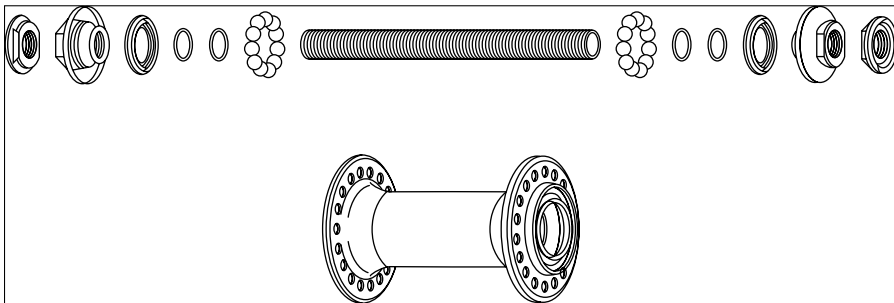

Figure 7-4:
- ✔ **Cup-and-cone (see Figure 7-4):** In the cup-and-cone style, loose ball bearings sit in smooth cup and are held in place by a cone. The cone and cup together create a *race*, in which the bearings can move around the axle in a circle with minimal friction. Washers are used to properly space the cone and cup and a locknut holds everything in place on the axle.